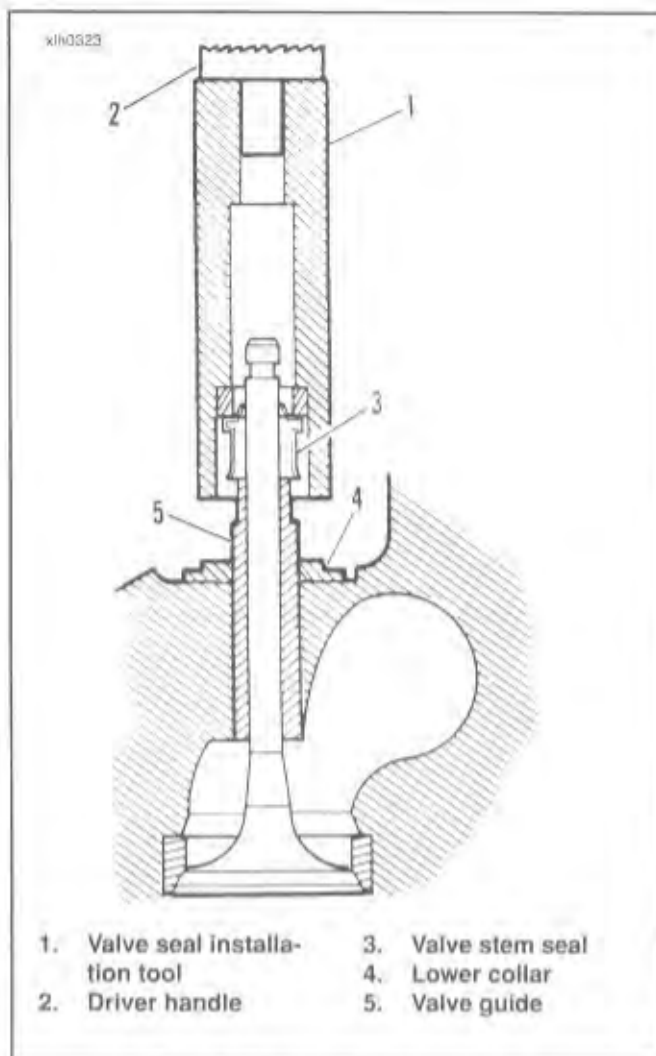

Figure 3-23. Valve Seal Installation
5. See Figure 3-23. Insert valve into guide and install lower collar (4).
7. See Figure 3-23. Tap the seal onto the guide using the VALVE SEAL INSTALLATION TOOL (Part No. HD-34643A) and DRIVER HANDLE (Part No. HD-34740). The seal is completely installed when the tool touches the lower collar (4).